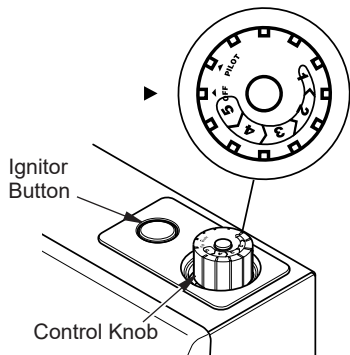

Figure 20 - Control Knob in the OFF Position
4. Wait five (5) minutes to clear out any air. Then smell for gas, including near the floor. If you smell gas, STOP! Follow "B" in the safety information above. If you do not smell gas, go to the next step.
5. Turn control knob counterclockwise ↺ to the PILOT position. Press in control knob for five (5) seconds (see Figure 20). *Note: The first time that the heater is operated after connecting the gas supply, the control knob should be pressed for about thirty (30) seconds. This will allow air to bleed from the gas system. If pilot does not stay lit, refer to Troubleshooting, pages 23 through 26. Also contact a qualified service technician or gas supplier for repairs. Until repairs are made, light pilot with match.*